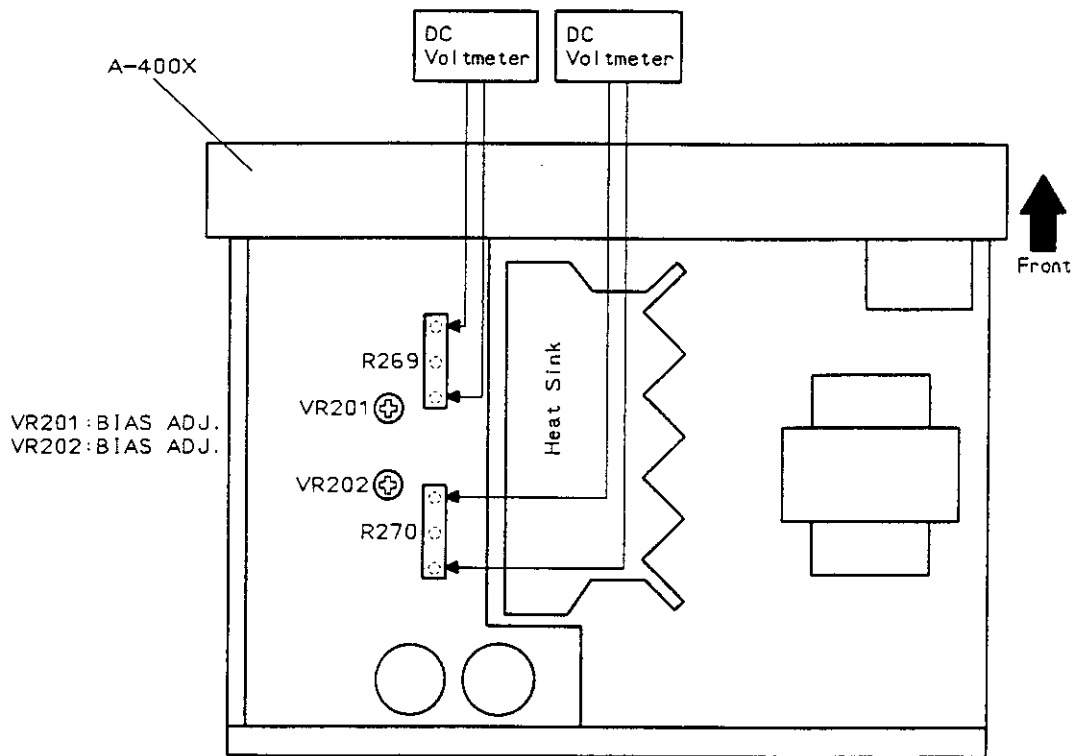

Fig. 6-1 Adjustment Drawing
1. Connect wire as shown in Fig 6-1.